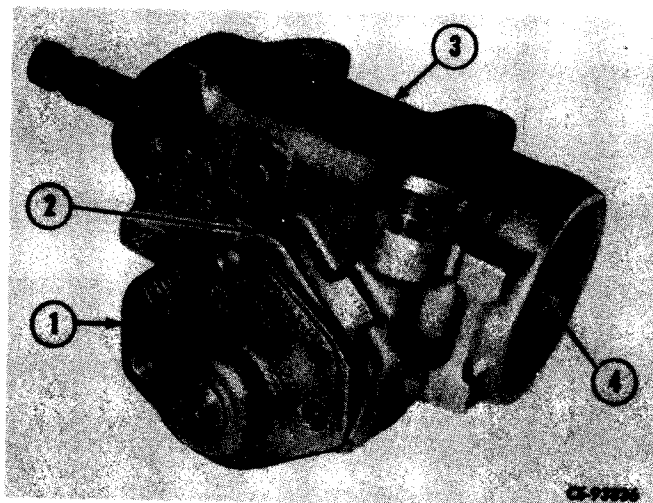

Figure 8-3
Remove cap screws and lock washers that secure side cover (1, Fig. 8-3) to housing (3).
With new gasket (2, Fig. 8-3) in place on side cover (1), insert Pitman shaft into housing (3), meshing teeth as described above. Rotate lash adjuster screw to pull cover over end of shaft. Back off adjuster screw to permit lash (play) between sector gear and ball nut.